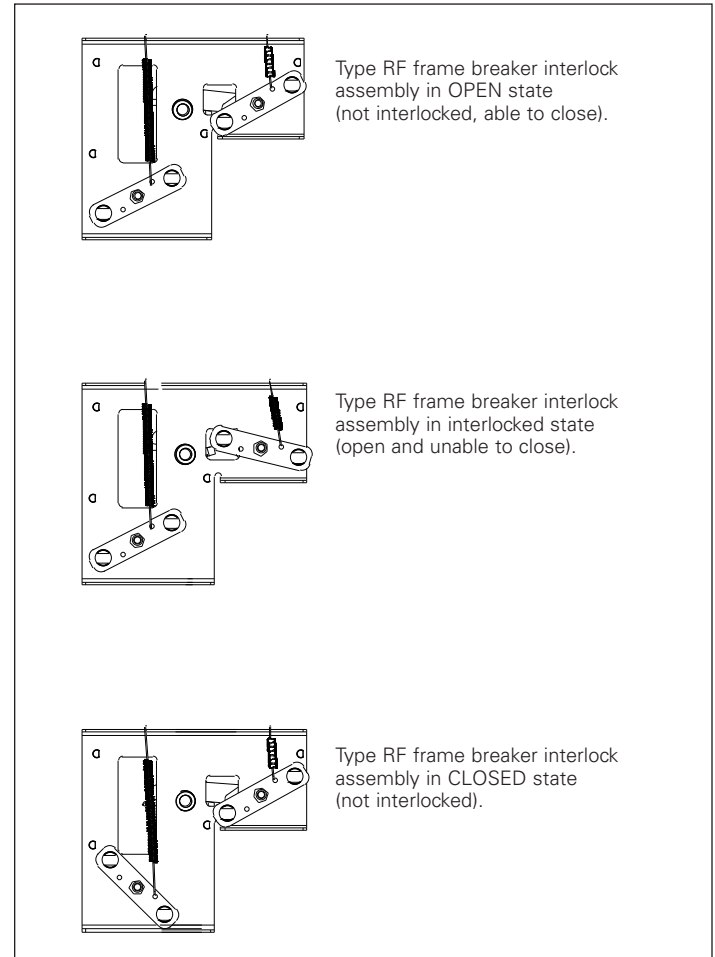

Figure 15. Position of interlock based on breaker state
Refer to **Table 1** and **Figure 1** for breaker position in the interlock configuration. Begin test sequence with all breakers **OPEN**. For **Breaker A**, verify that the interlock assembly is positioned as shown in **Figure 15** while in the various states required by the steps below. For **Breaker B**, use the figure included in the information leaflet for the interlock kit installed on that breaker.
- Verify that **Breaker A** closed using the OPEN/CLOSED indication and **Figure 15**
- Inspect driven lever on **Breaker B**. It should be positioned as shown in the figure of the information leaflet (IL) for the interlock kit installed on **Breaker B**
Open **Breaker A** (verify it opens using the OPEN/CLOSED indication and **Figure 15**)
- Verify proper operation on both breakers (use **Figure 15** to verify when **Breaker A** is interlocked)